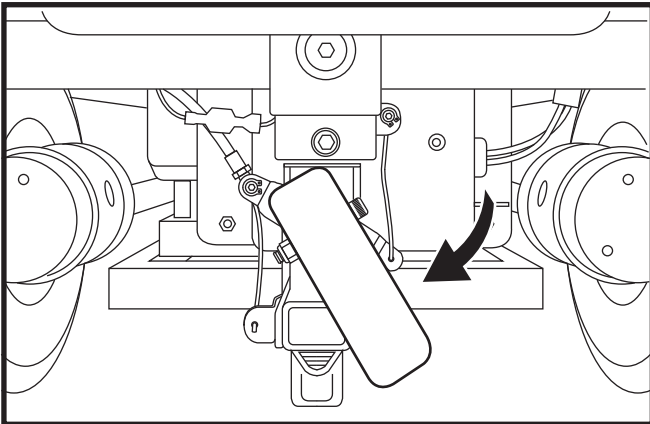

Figure 8. Freewheel Mode (Drive Disengaged)
For your convenience, your power chair is equipped with a manual freewheel lever. See figures 8 and 9. This lever allows you to disengage the drive motors and maneuver the chair manually.
1. Pull the manual freewheel lever out and rotate clockwise for freewheel mode (drive disengaged.) See figure 8.